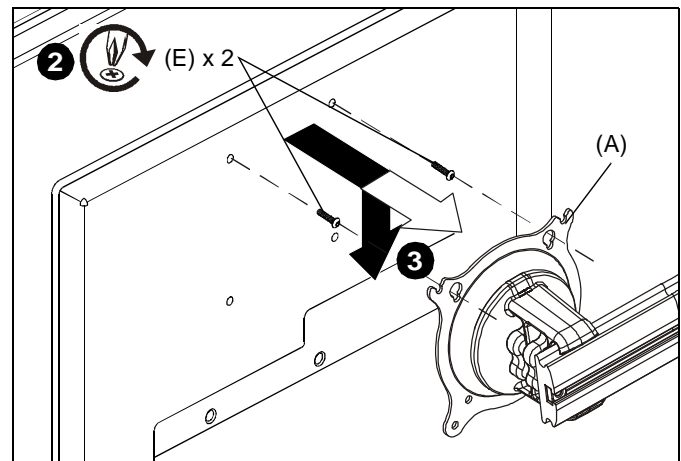

Figure 2
2. Carefully install two M4 x 12mm Phillips head cap screws (E) into the *upper* mounting holes on the display. Thread screws completely into display, then back out 3 complete turns.
3. Align two screws (E) with the two top teardrop mounting holes on the Centris cup and lower Centris cup onto installed screws. (See Figure 2)